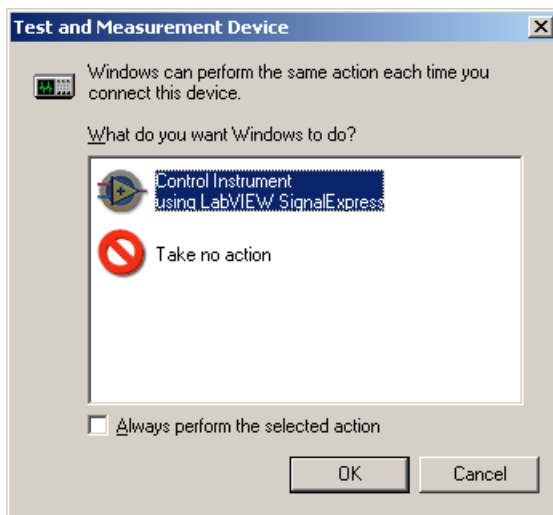

Figure 3-3. Windows Test and Measurement Device Dialog Box
4. Windows detects the instrument and a dialog box appears that prompts you for the action to take, as shown in Figure 3-3. Select **Control Instrument using LabVIEW SignalExpress** and click the **OK** button.